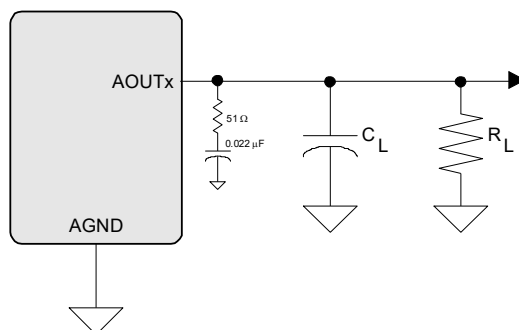

Figure 3. Headphone Output Test Load
10. See Figure 3. R_L and C_L reflect the recommended minimum resistance and maximum capacitance required for the internal op-amp's stability and signal integrity. In this circuit topology, C_L will effectively move the band-limiting pole of the amp in the output stage. Increasing this value beyond the recommended 150 pF can cause the internal op-amp to become unstable.
(Test conditions (unless otherwise specified): Input test signal is a full-scale 997 Hz sine wave; measurement bandwidth is 10 Hz to 20 kHz; Sample Frequency = 48 kHz and 96 kHz; test load $R_L = 10\text{ k}\Omega$, $C_L = 10\text{ pF}$ for the line output (see Figure 3), and test load $R_L = 16\text{ }\Omega$, $C_L = 10\text{ pF}$ (see Figure 3) for the headphone output.
Test conditions (unless otherwise specified): Input test signal is a full-scale 997 Hz sine wave; measurement bandwidth is 10 Hz to 20 kHz; Sample Frequency = 48 kHz; test load $R_L = 10\text{ k}\Omega$, $C_L = 10\text{ pF}$ (see Figure 3).
Test conditions (unless otherwise specified): Input test signal is a full-scale 997 Hz sine wave; measurement bandwidth is 10 Hz to 20 kHz; Sample Frequency = 48 kHz; test load $R_L = 16\ \Omega$, $C_L = 10\ \text{pF}$ (see Figure 3).